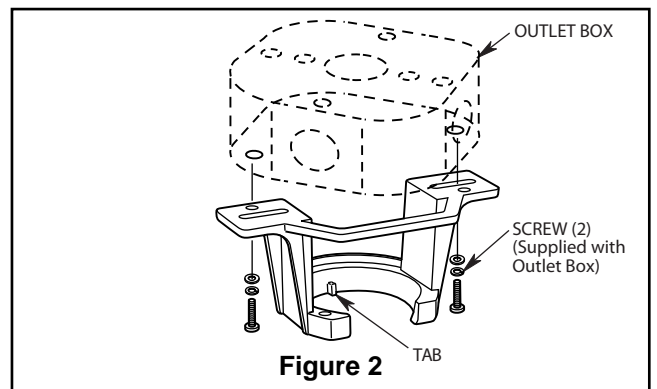

Figure 2
1. Securely attach the hanger bracket to the outlet box using the outlet box screws and washers supplied with the outlet box (Figure 2).